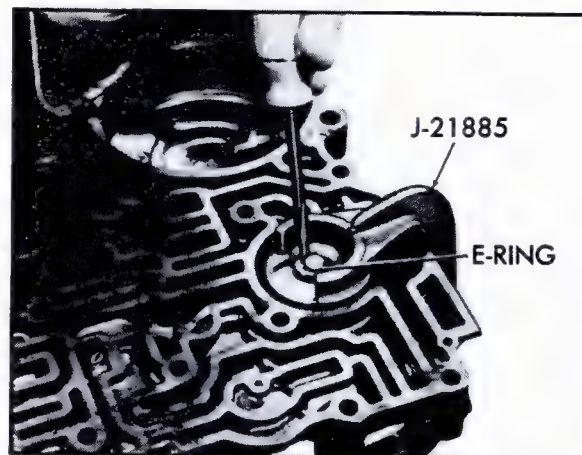

Fig. 7-221 Removing Front Accumulator
e. Install Control Valve Accumulator Piston Installer, J-21885, on accumulator piston, compress piston and remove E-ring retainer, Fig. 7-221.
t. Position front accumulator spring and piston into valve body and install Control Valve Accumulator Piston Installer, J-21885, on piston. Compress spring and piston, aligning spring and piston with bore, Fig. 7-221.